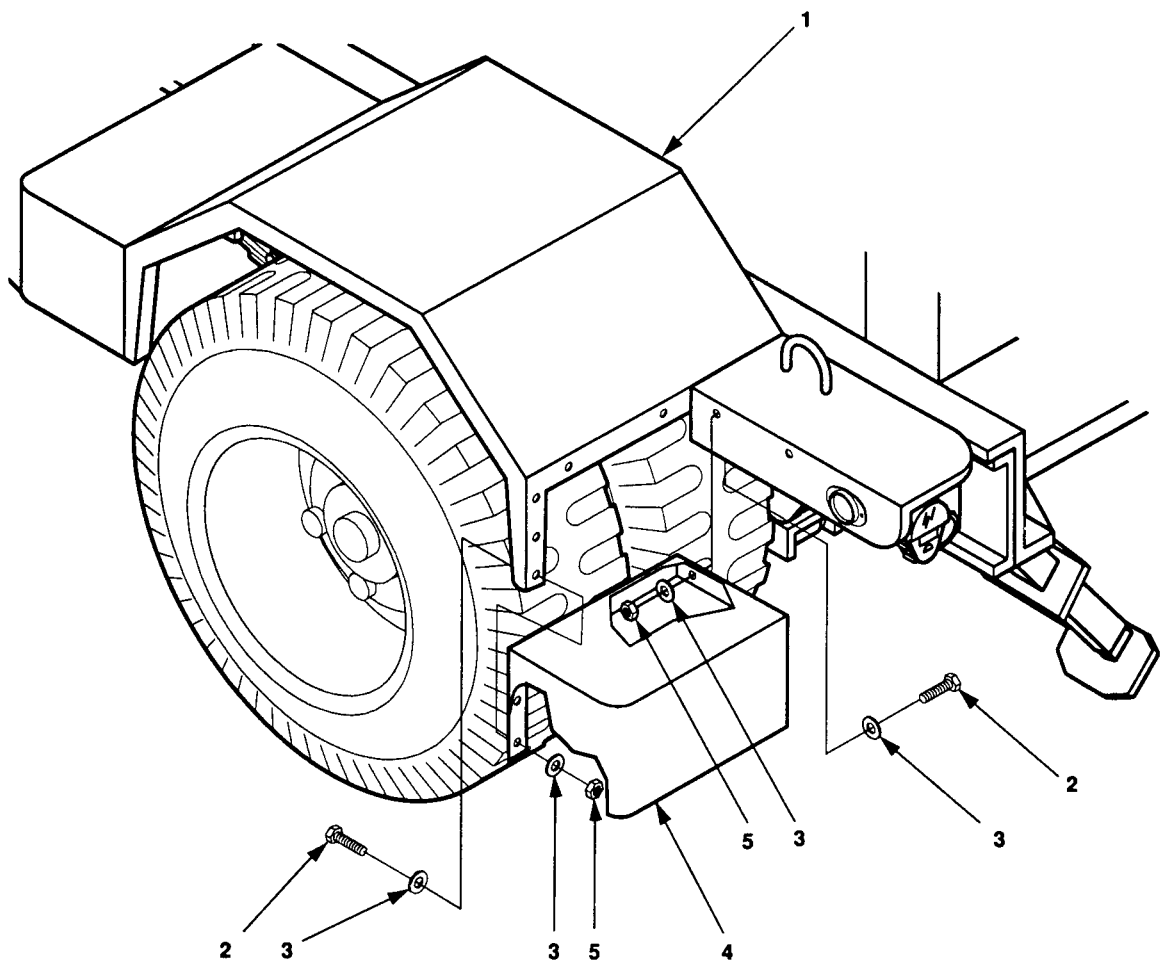

Figure 4-16. Rear Step Replacement.
1. To remove either rear step, remove two self-locking nuts (5, figure 4-16), flat washers (3), and bolts (2) that secure rear step (4) to trailer frame. Discard self-locking nuts.
2. Remove five self-locking nuts (5), flat washers (3), and bolts (2), that secure rear step (4) to fender (1). Discard self-locking nuts.
3. Remove rear step (4) from trailer.